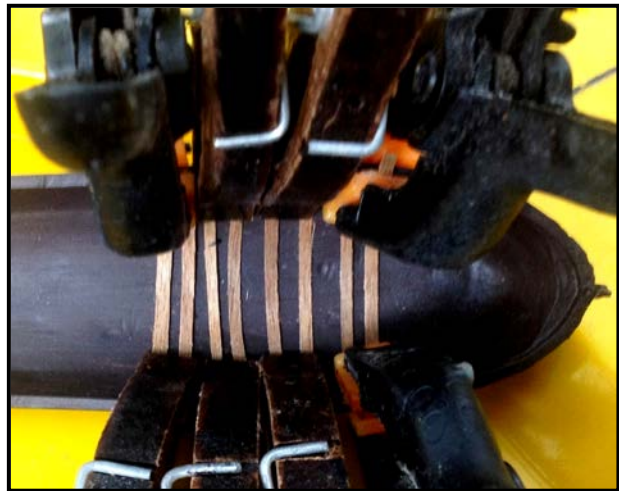
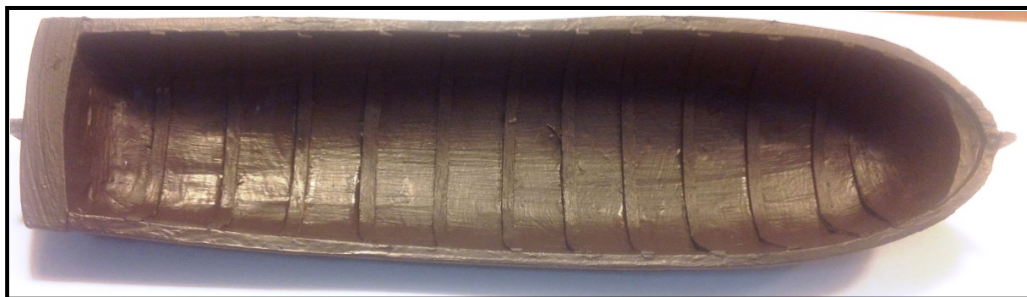

Figure 13: Rib Shaping
Figure 15: Painted Ribs
- The flat inside bottom was changed into a *concave surface matching the outside*. A Dremel cutting bit with a rounded shape made this task simple and approx. 5 mm. was cut out from the bottom (refer back to Fig. 13). The guide to cutting down to a suitable depth involved holding the boat up to a strong light and observing a uniform translucent colour (to begin with, thick bottom was totally opaque to light). The concave inner surface is evident in Fig. 15 below and this was carried out before any further modifications took place.